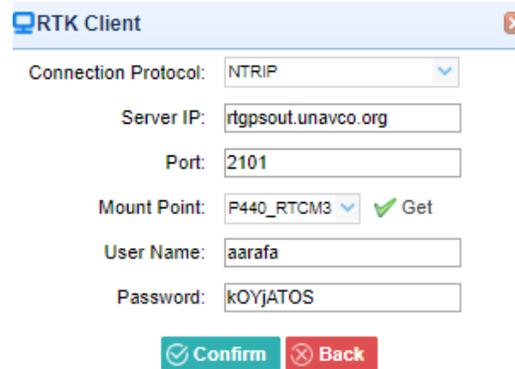

Figure 89 – NTRIP connection protocol setup.
- Click on Connect button under the modify tab, and the figure 89 will show. Set the connection protocol to NTRIP, and enter the server IP and port number of the Ntrip caster. For the Mount point, click on *Get* to receive a list of station to choose from, enter username and password. Click confirm.